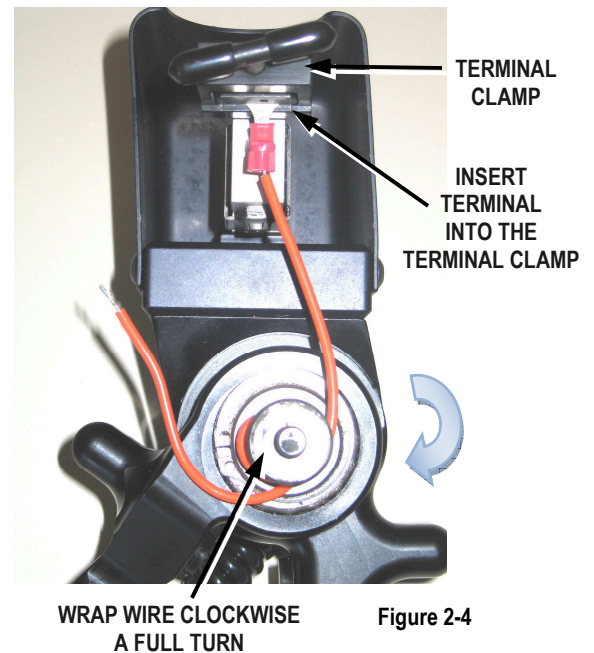

Figure 2-4
- Insert the wire / terminal lead in the terminal clamp, and tighten the grips T-handle to secure. Do not clamp the conductor crimp. See Figure 2-4.